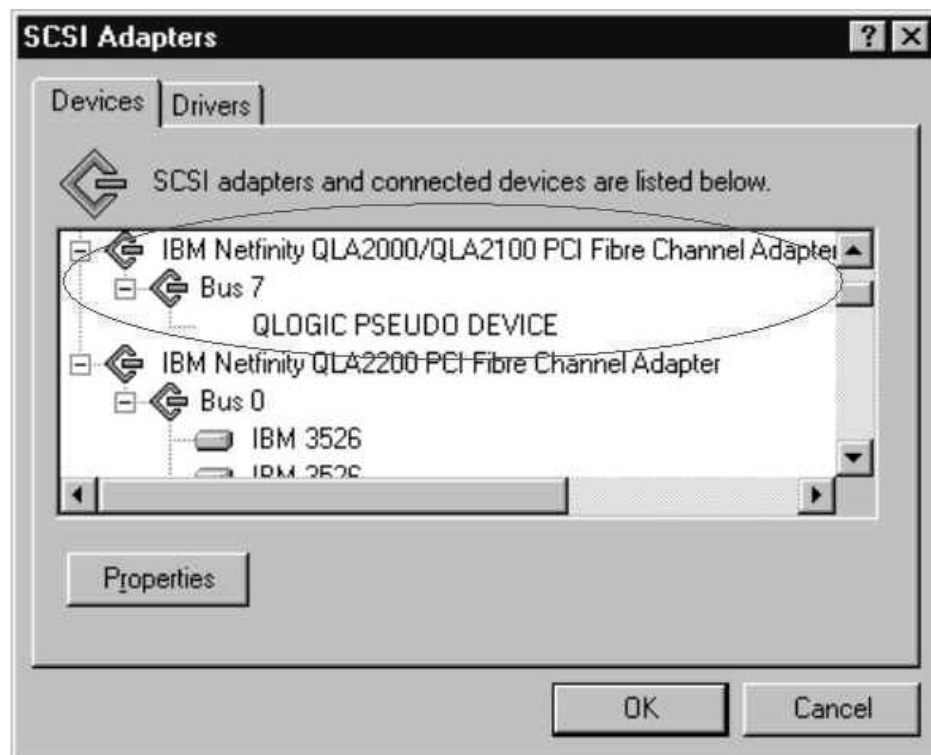

Figure 136. SCSI adapters
1. Windows NT comes up to the blue screen and reports the first two lines (version, number of processors, and amount of memory). Windows NT takes a long time to start. The SCSI Adapters applet in the Control Panel displays the window shown in Figure 136 for the 2100.